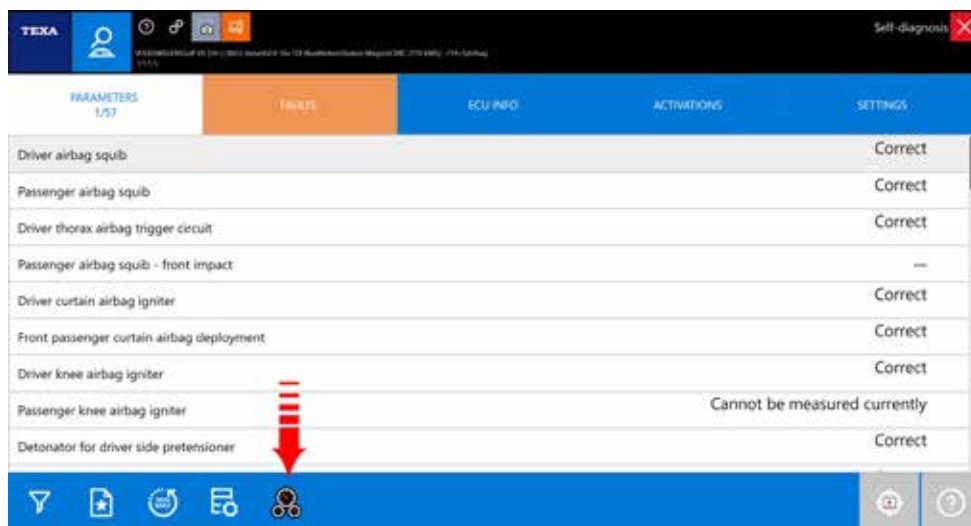

Figure 44: Dashboard mode ON button
In Figure 44, the accelerator pedal value is currently 98% (A), but in the self-diagnosis session the Turbocharger also recorded a minimum of 3% and a maximum of 98% (B and C).